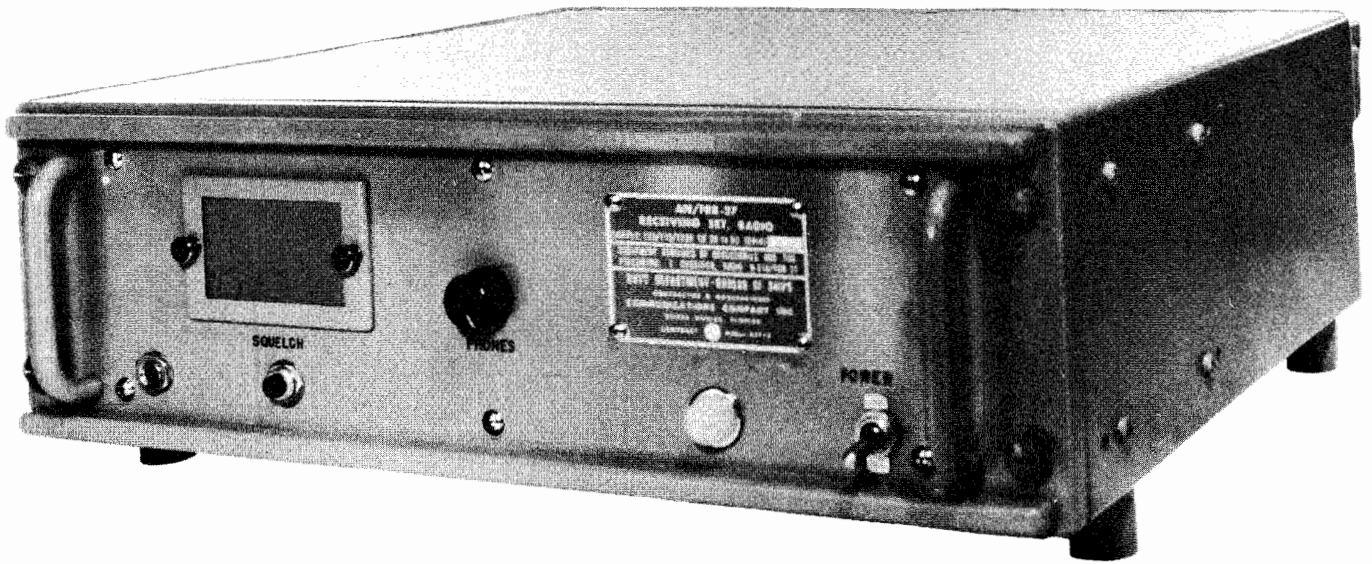

Figure 1-2. AN/FRR-27 Radio Receiver, Front Panel and Side
b. **FRONT PANEL—FRAME ASSEMBLY.**—Figures 1-2 and 1-7 show this assembly. The panel mounts two handles, which are used to pull the receiver chassis from the case and for carrying purposes. Across the top and bottom of the panel are mounted bars which provide a recess arrangement, designed to minimize accidental movement of the panel controls. The panel and case